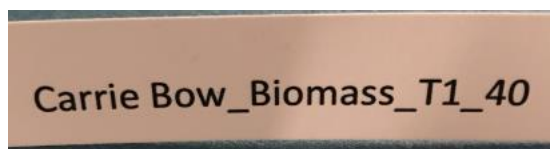

Figure 1. Example label with site (Carrie Bow), method (biomass), transect (1), and replicate (40 m).
3. Place 18 internal labels with the same metadata written on waterproof paper inside the corresponding plastic bag (Fig. 1).